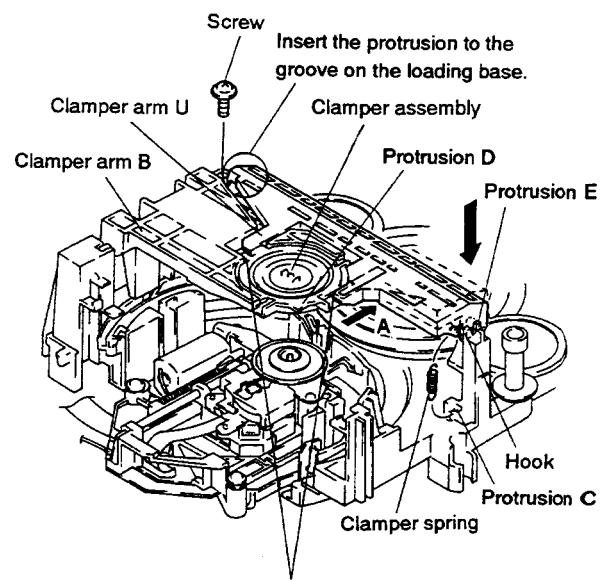

Fig. 2-7
(2) As shown in Fig. 2-7, attach the clamper assembly to the clamper arm B so that the protrusion D of the clamper assembly may turn to the position as Fig. shows.
(3) As shown in Fig. 2-7, insert the protrusion of the clamper arm U to the groove on the clamper assembly, and slide in the direction of the arrow A. Next, insert the protrusion of the clamper arm U to the groove on the loading base, while the protrusion E being pushed into the hook of the loading base.